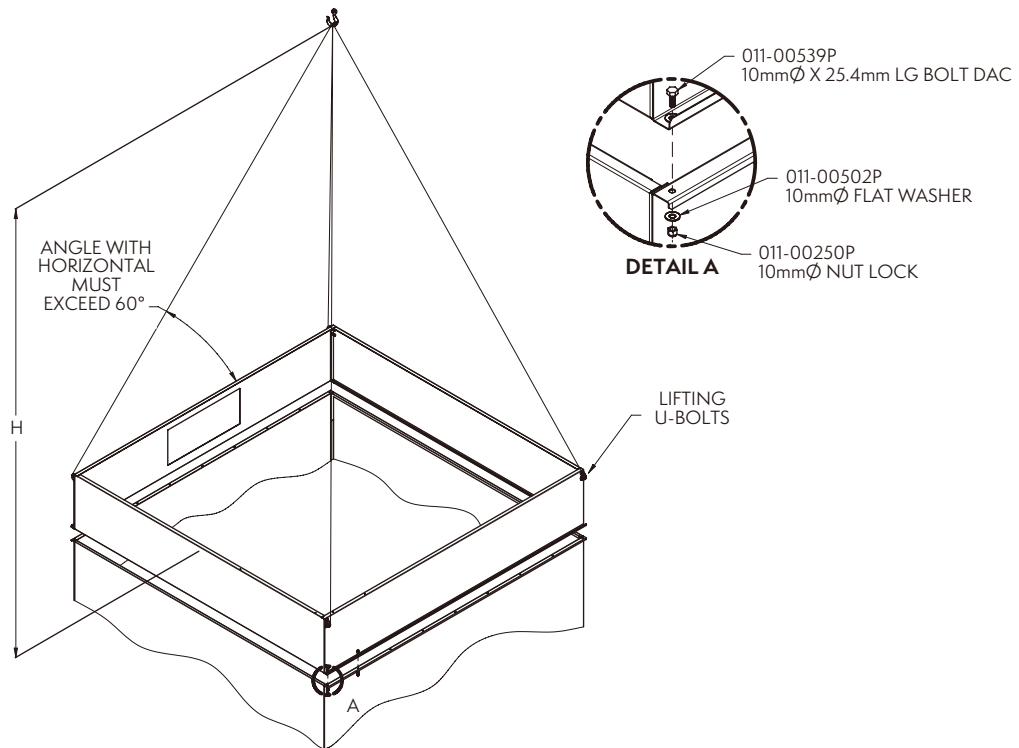

Figure 14 – Discharge Hood Rigging and Assembly (Shown without Dampers)
Some units may be supplied with an optional discharge hood section. This section will ship from the factory as a separate item or loosely mounted on top of either the basin and fan section or casing section to reduce freight charges. Each hood section is equipped with U-bolts located at the four corners for lifting and final positioning (**Figure 14**). Always use safety slings for extended lifts or where any hazard exists.
Install the retainer clips in all four corners as shown in **Figure 14**. For 5.4m-long hoods, two (2) additional clips are provided and are to be fastened in the middle of each side.